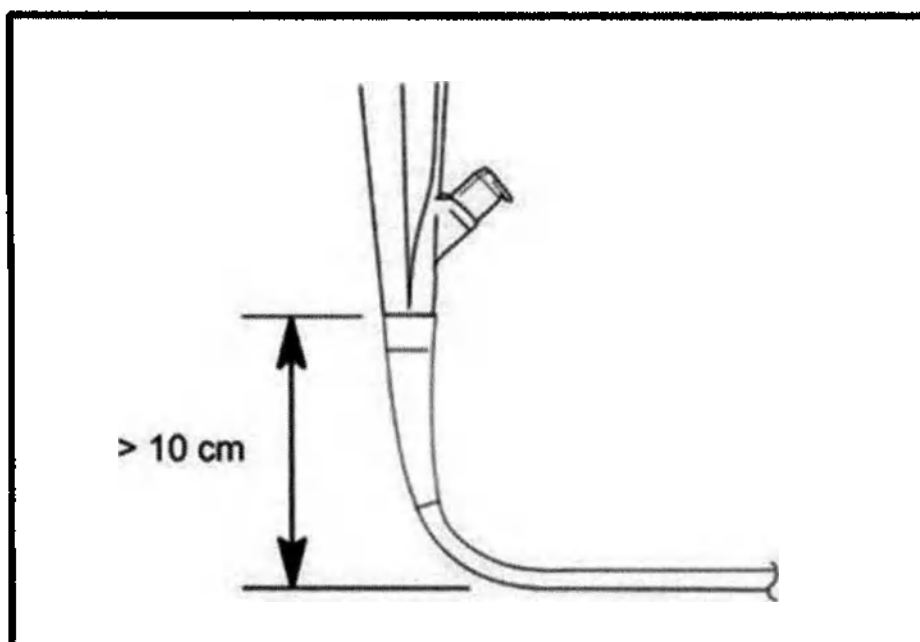

Fig 4.2
- Do not allow the insertion tube to be bent within a distance of 10 cm or less from the junction of the protective cover. Insertion tube damage can occur (Fig 4.2).